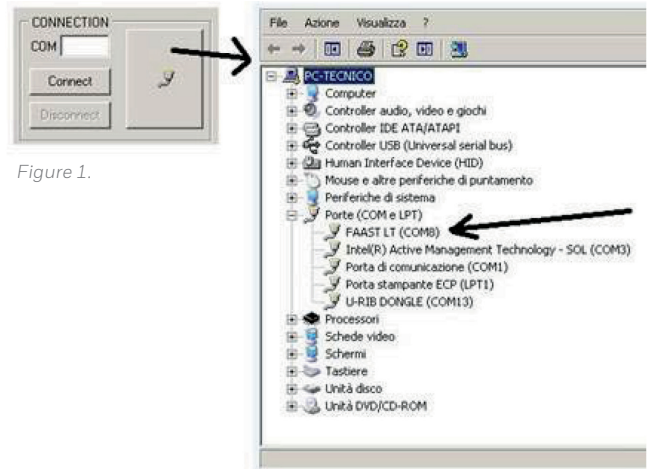

Figure 1.
- Click on the "PORTS" button (Connector/cable). The Windows HARDWARE MANAGER will appear. Find the FAAST LT COM PORT NUMBER. See Figure 1. below.